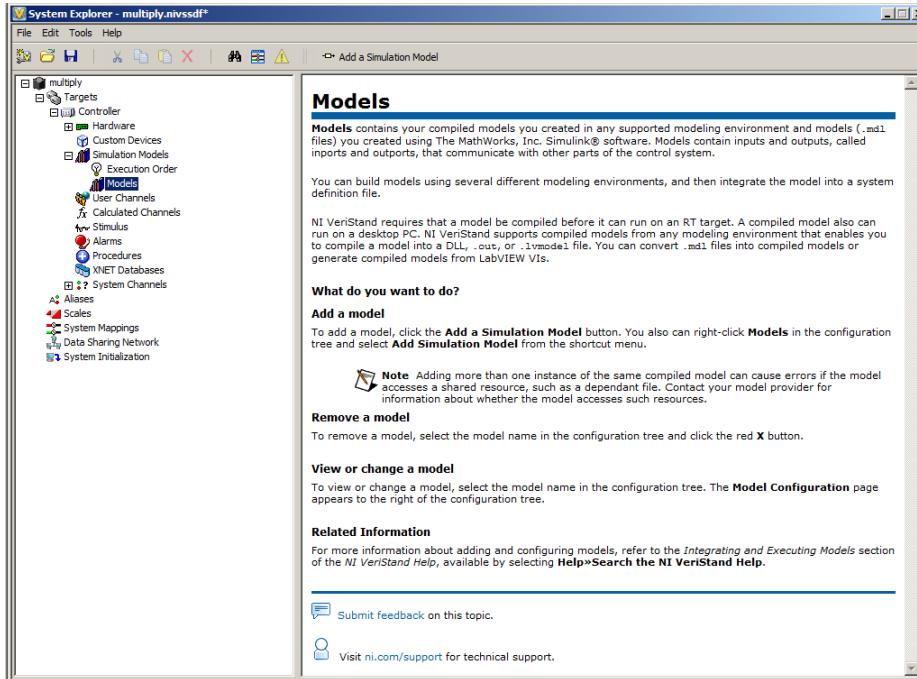
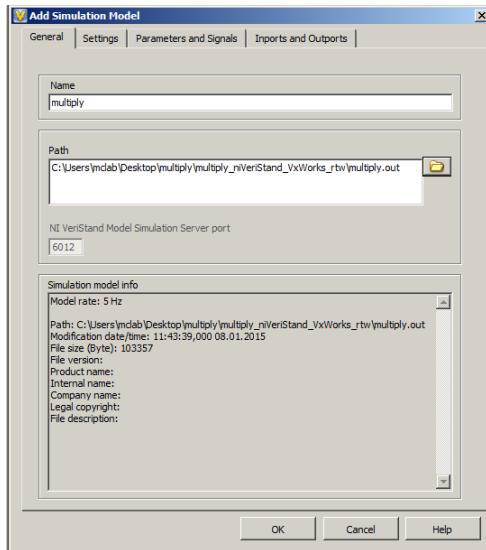

Figure 18: VeriStand - System Explorer - Models
Figure 19: VeriStand - System Explorer Model
2. Click Add a Simulation Model, as seen at the top of Figure 18. Browse to the output of the Simulink compilation, as seen in Figure 19. Finally, click Auto Select Decimation to make sure the model runs at the intended rate.